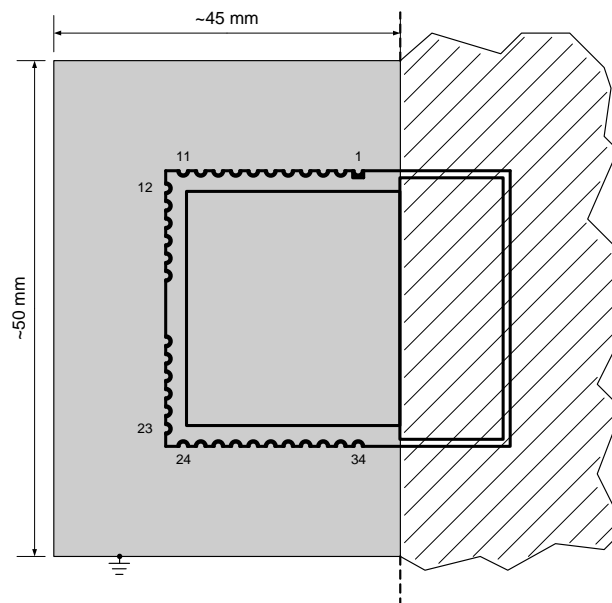

Figure 4-3: Recommended Environment
- As shown in Figure 4-3, the solid grey area must be a ground-plane on the Bottom Layer (or Layer 2 in a multi-layer structure) of the carrier board. Antenna matching and all other measurements have been done with these dimensions.
- The hatched area shown in Figure 4-3 has to be free of material (e.g. PCB, metal, housing). If possible, the distance from the antenna area to any material should be at least $\lambda/2$ ^{see 1}.